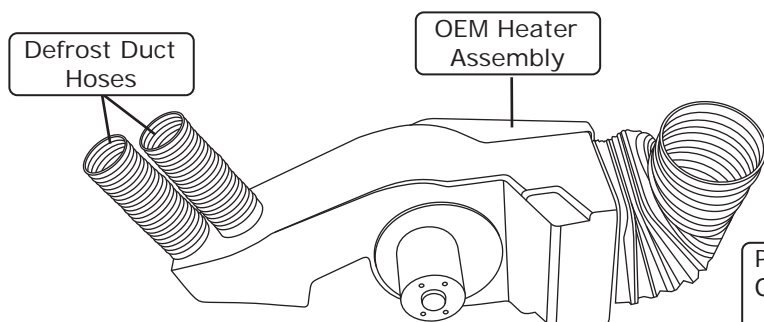

Figure 2
4. Remove the OEM heater assembly (discard) (See Figure 2, below).
5. Remove the OEM duct hoses from the defrost ducts (discard) (See Figure 2, below).